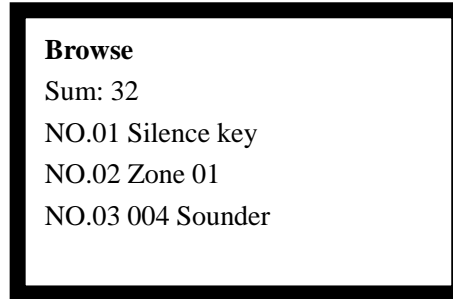

Fig. 6-10
- ✧ Input number 3, you can view definitions to ZCP keys as in Fig. 6-10.